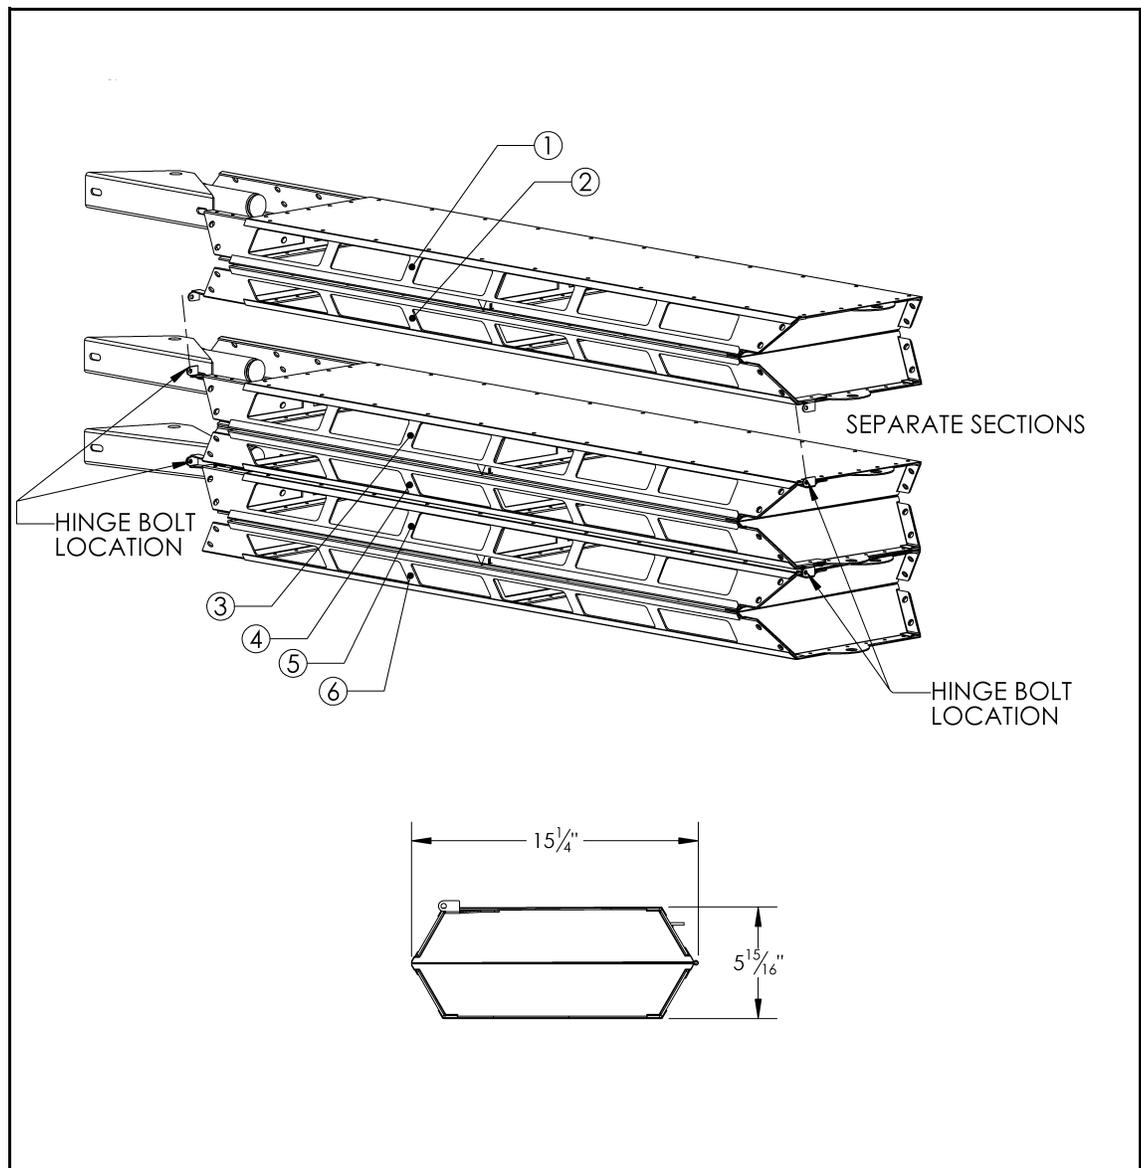

Figure 3.2
2. Remove bolts (2) from hinges located between the second and third sections. See Figure 3.2.
3. Remove bolts (2) from hinges located between the fourth and fifth sections. See Figure 3.2.